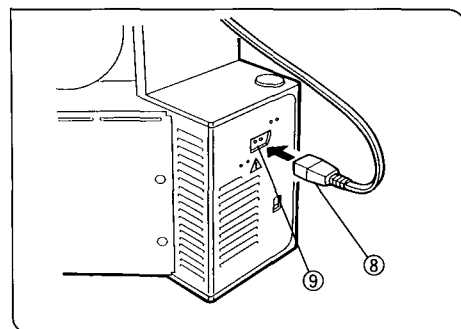

Fig. 10
3. Plug the connecting cord plug ⑧ firmly into the lamp power output connector ⑨ on the rear of the microscope frame. (Fig. 10)